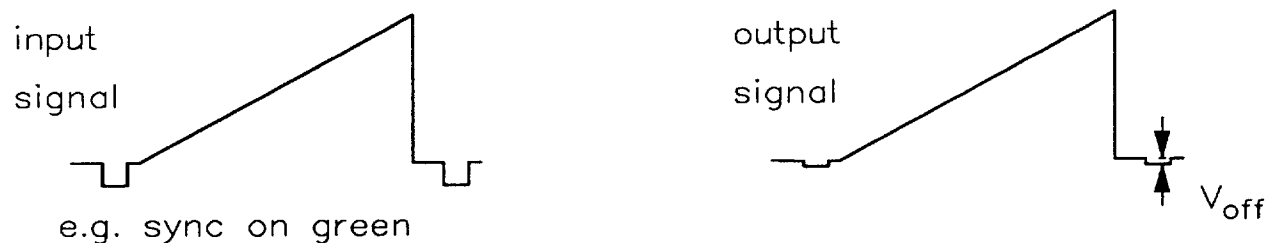

Fig.9 Typical sync clipping.
12. Composite signals will not disturb normal operations because an internal clipping circuit cuts all signal parts below black level. Typical sync clipping see Fig.9.